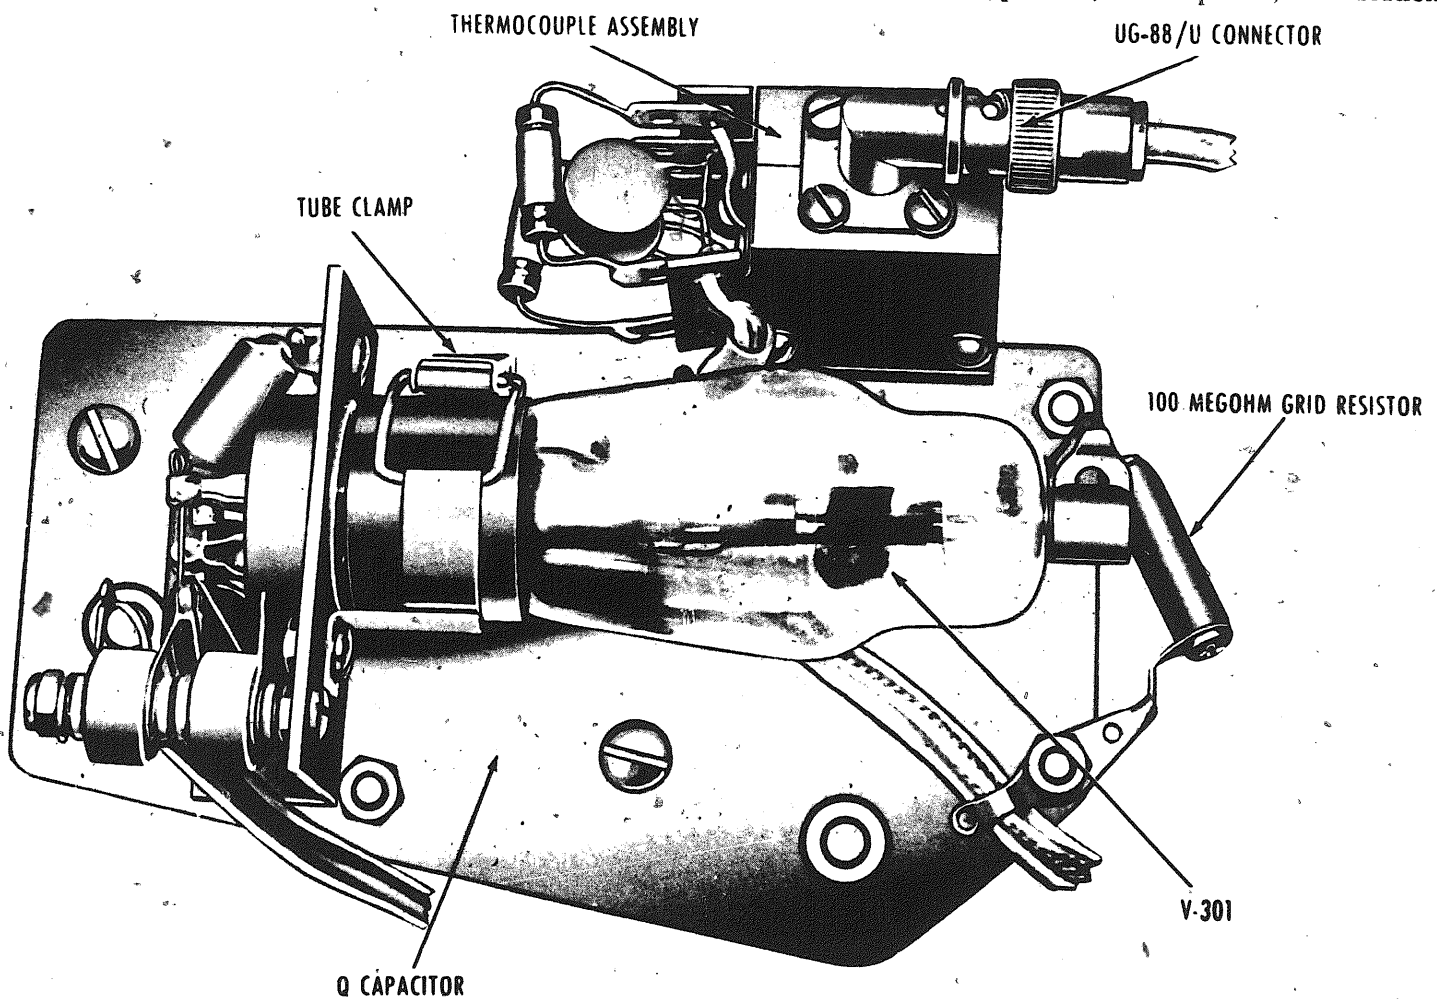

Figure VI-1 Resonating capacitor, Q voltmeter tube, and thermocouple assembly
The Q Meter Type 260-A may be used at frequencies below 50 KC by connecting the output of an external oscillator to the measuring circuit. A receptacle (shown in Figure VI-1) is provided for this purpose at the rear of the injection resistor housing. The external oscillator must be capable of delivering one ampere to a load of approximately 0.3 ohms. To meet this requirement, most oscillators will have to work through a matching transformer. The BRC Coupling Unit Type 564-A will match an impedance of about 500 ohms to the injection circuit from 50 KC to about 1 KC. Under these conditions the oscillator output level should be approximately 22 volts at the transformer primary.
*a.* Carefully remove the grid cap and release the clamp at the base of the tube (Figure VI-1).
a. Remove the UG-88/U plug from its receptacle at the rear of the thermocouple assembly (Figure VI-1).